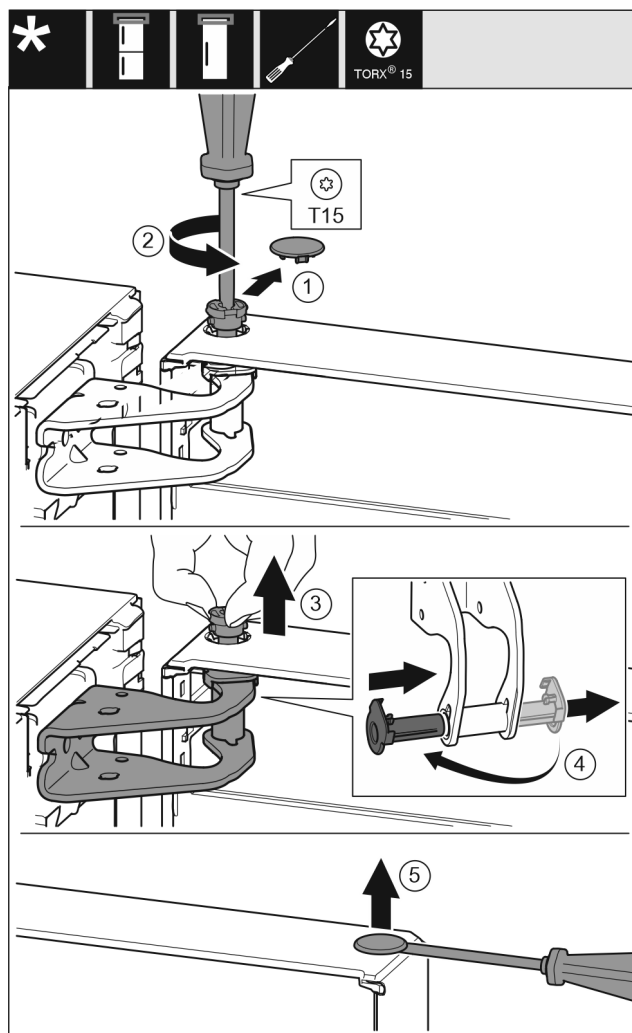

Fig. 11
- Carefully remove the protective cover. *Fig. 11 (1)*
- Loosen the bolts slightly with a T15 screwdriver. *Fig. 11 (2)*
- Hold the door and remove the bolts with your fingers. *Fig. 11 (3)*
- Pull the bearing bush out of the guide. Insert from the other side and latch into place. *Fig. 11 (4)*
- Carefully lift the plugs out of the door bearing bush with a slotted screwdriver and remove them. *Fig. 11 (5)*